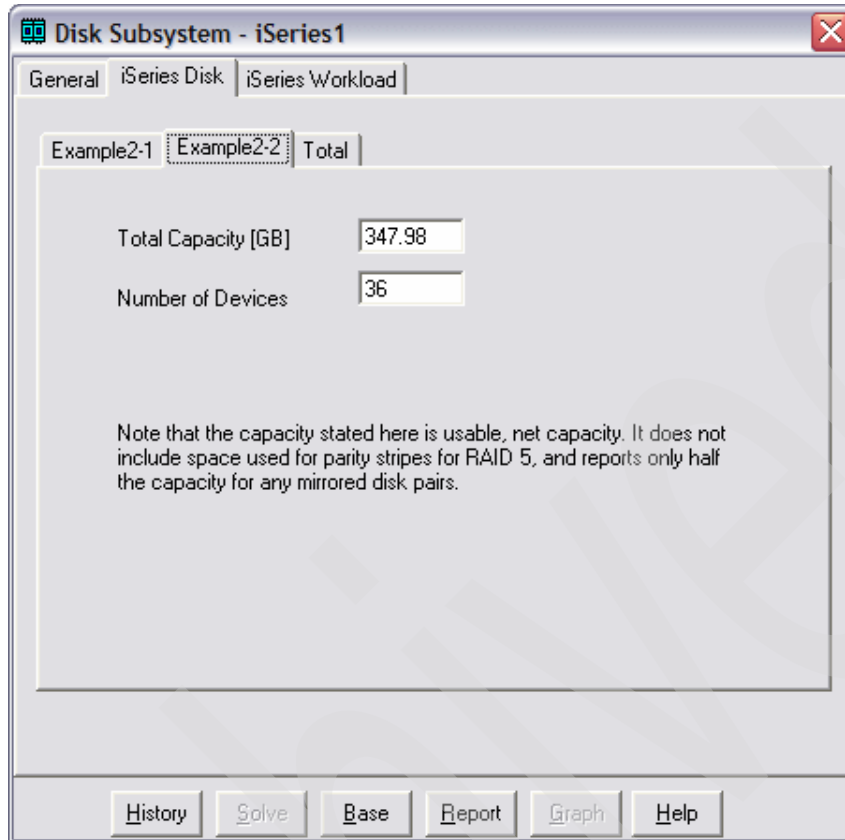

Figure 4-53 Workload characteristics of each system
- b. Select the Example2-2 tab to see the workload of the second i5/OS system (Figure 4-53).